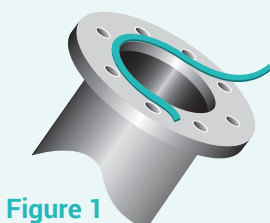

Figure 1
- Position the start of the sealant tape close to a bolt hole (figure 1).